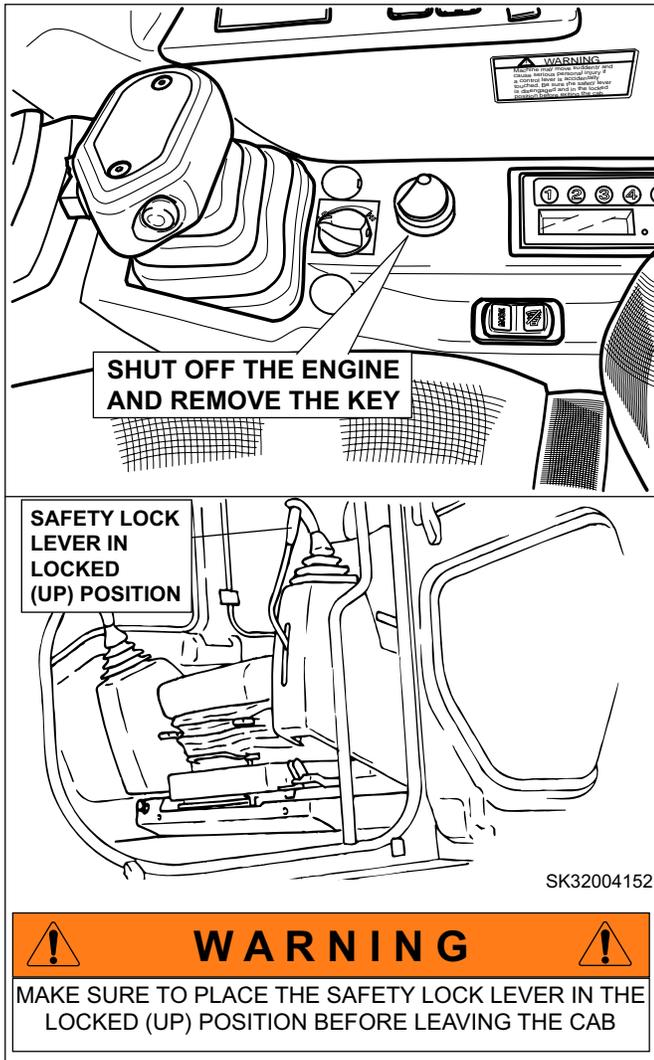

FIGURE 5.4A
- g. Shut off the engine and remove all three pins A, B, and C from blade wings, see Fig. 5.4A, and 5.4B as reference.